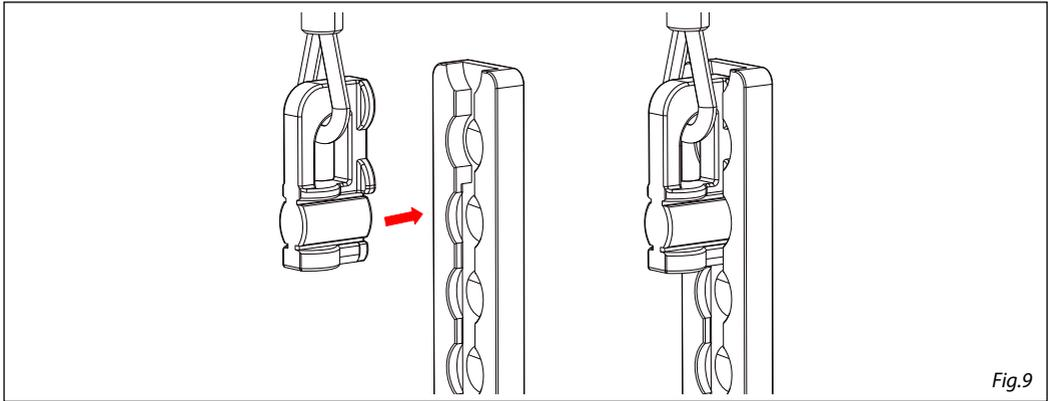

Fig.9
- È possibile sospendere le TOURING112H/HP tramite appositi ganci per mezzo del sistema di aggancio rapido "fly track" (fig.9)
- It is possible to suspend the TOURING112H/HP series cabinets through appropriate hook by means of the quick hook system "fly track" (fig.9)